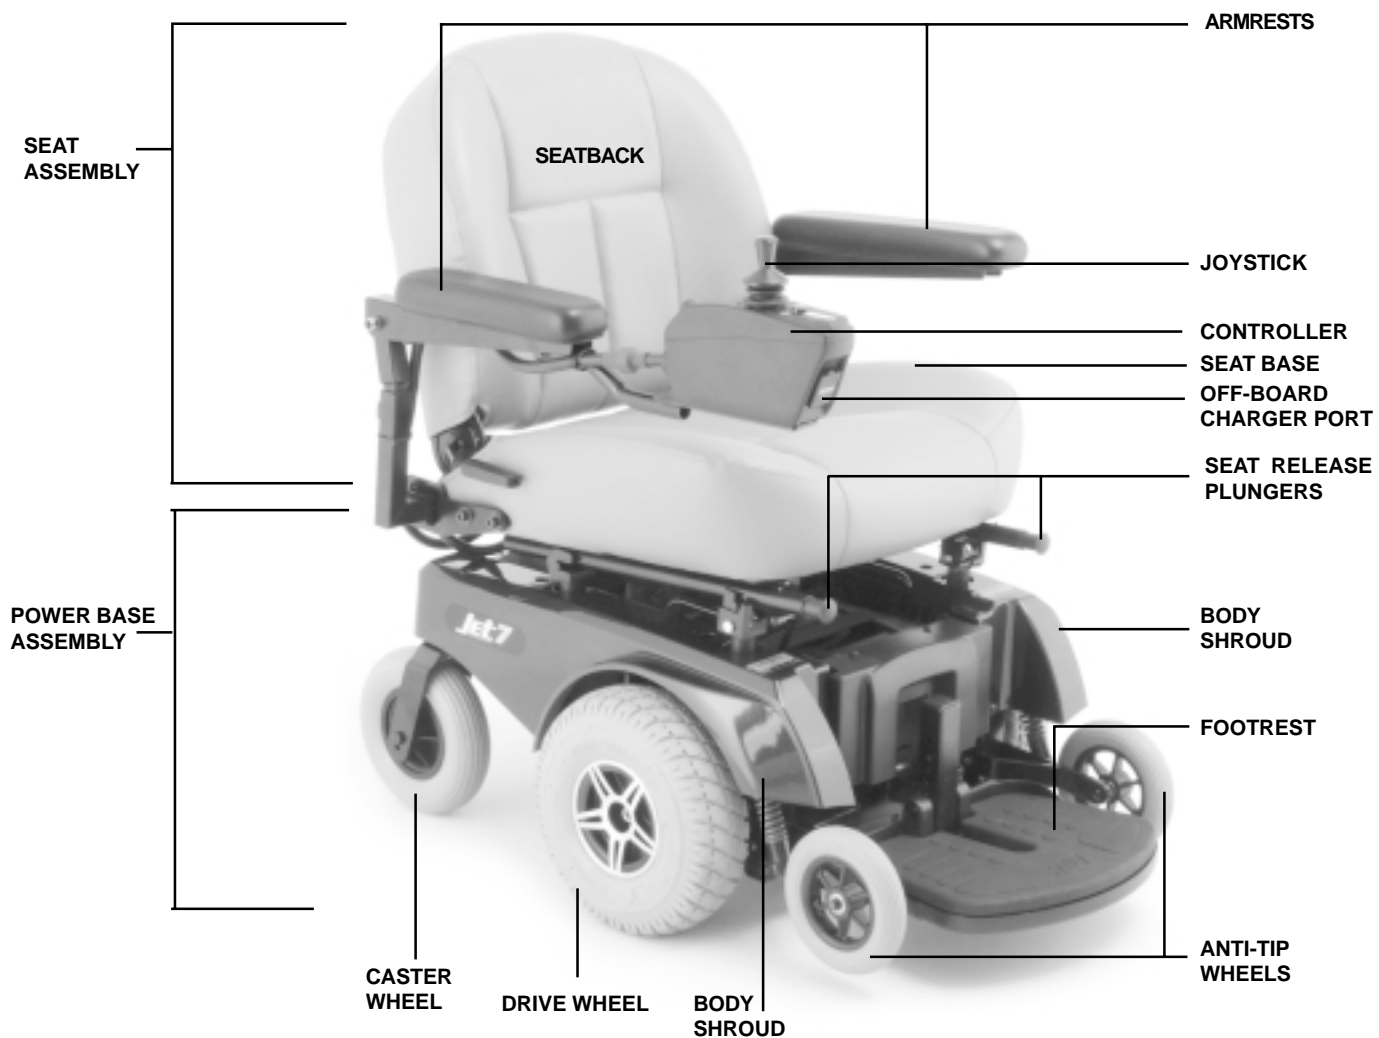

Figure 1. The Jet 7
Your power chair has two main assemblies: the seat and the power base. See figures 1 and 2. There are a wide range of seating options for the power chair, as well as custom configurations. Commonly, the seating system consist of a seatback, armrests, controller, and footrest. Your power chair may have other specialty features to further enhance your mobility. If your power chair is equipped with other specialty features, refer to the information supplied with those products.
The electrical system is powered by two long-lasting, 12-volt, deep-cycle batteries. These batteries are connected in series to provide 24 volts of direct current (DC). The main electrical components consist of the batteries, a battery charging system, the main circuit breaker, the motor/brake assembly, and the controller (see figures 1, 2, 4, and 9). Refer to “Pilot Controller” or “Dynamic DL-50 Controller” for more specific information on the controller.